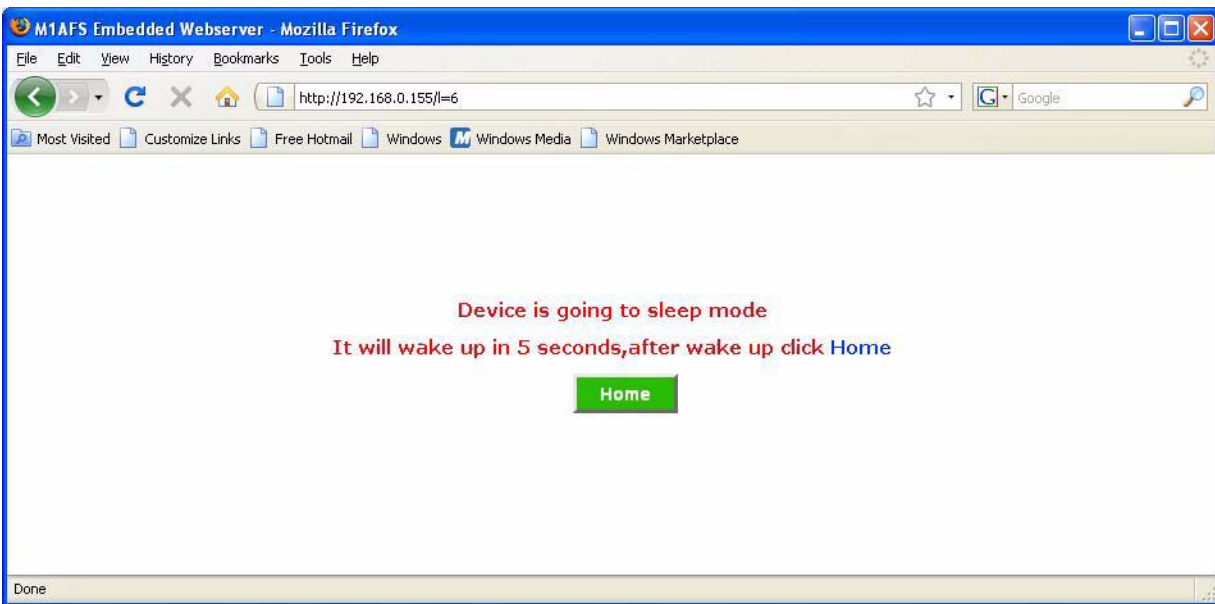

Figure 2-31 · Self Wake-Up
2. Click the **Self-Wakeup** button. The device will be in power-down mode for 5 seconds. It will wake up after 5 seconds automatically (Figure 2-31).